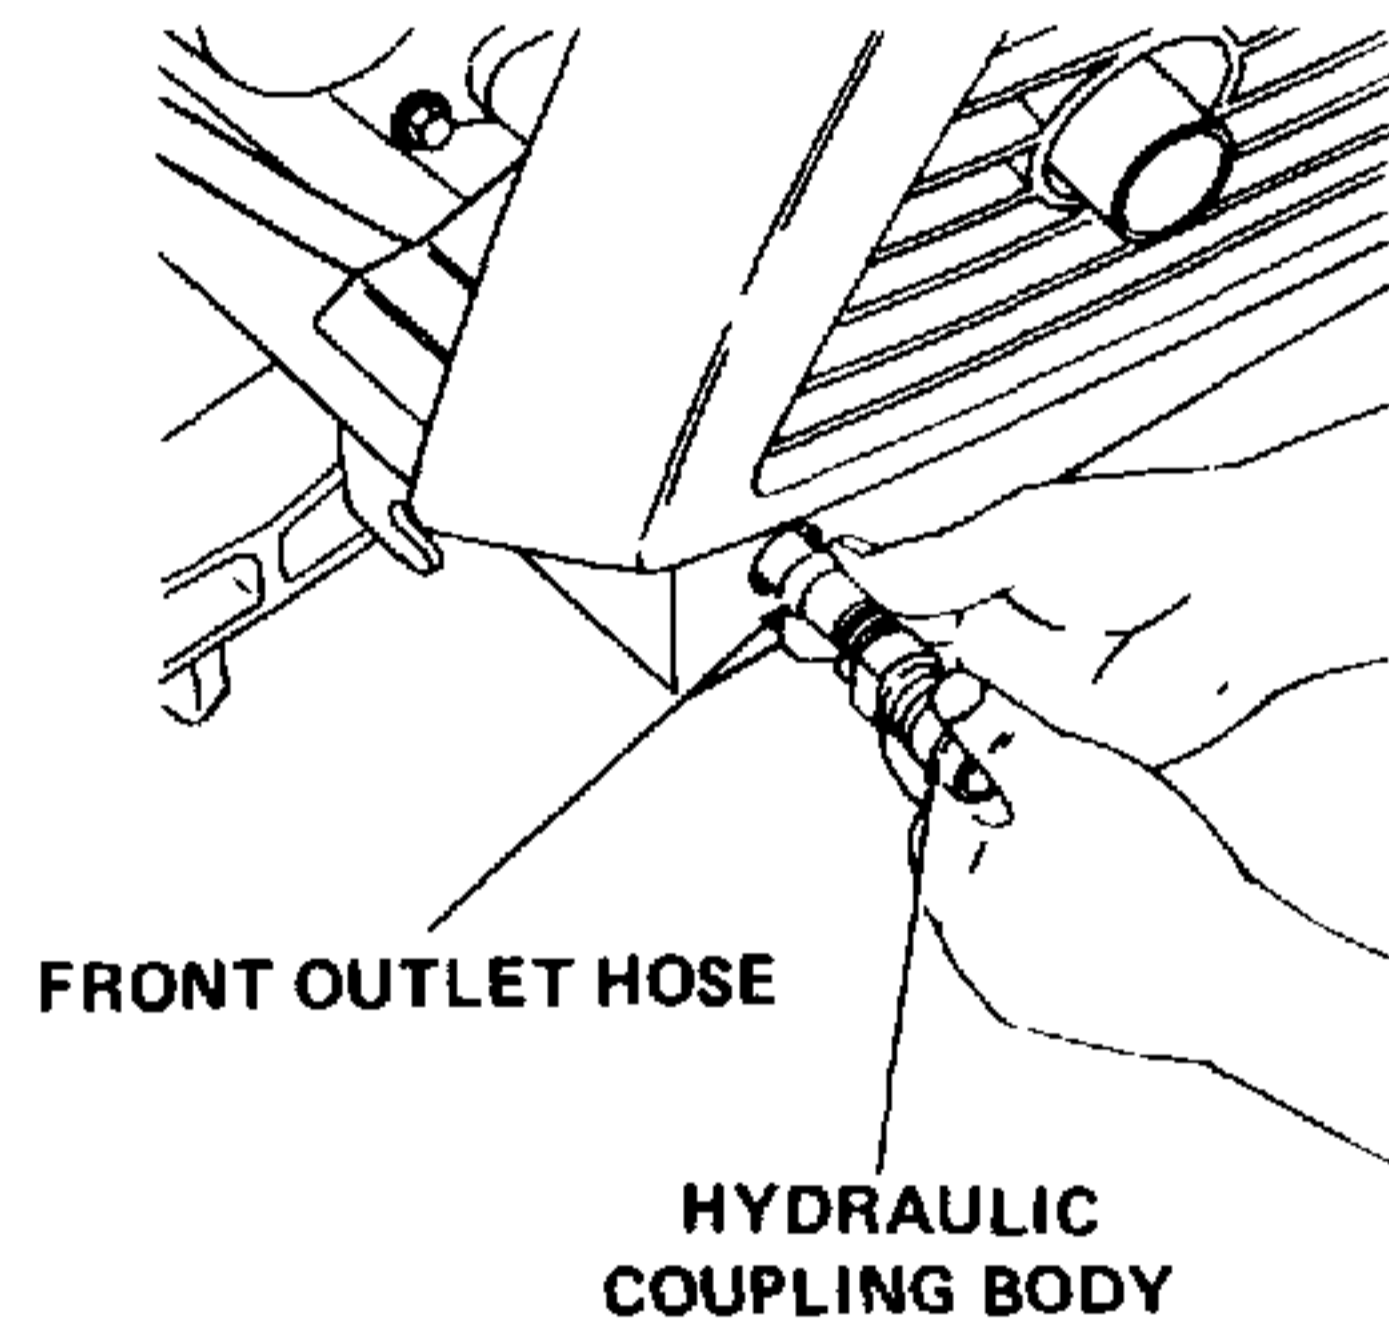

Figure 7-90. Threading Hydraulic Coupling Body Onto Front Outlet Hose.
10. Thread a hydraulic coupling body (20, Figure 7-66) securely onto each of the front outlet hoses. Refer to Figure 7-90.